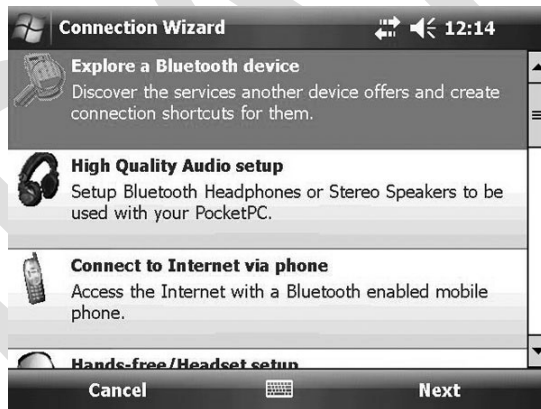

Figure 14-5. Press “Explore a Bluetooth device.”
5. The Connection Wizard will open. Press “Explore a Bluetooth device.” See Figure 14-5.